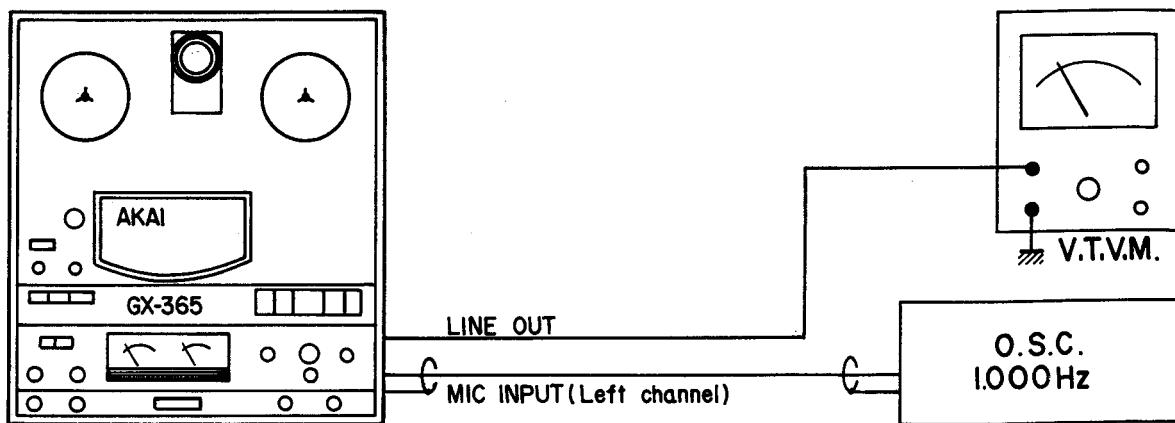

Fig. 4
- As shown in Fig. 4, connect an audio oscillator to the left Mic Input jack and a V.T.V.M. to the left Line Output of the tape recorder. Supply a 1,000 Hz signal 4 mV to the Mic Input with the Audio Oscillator.